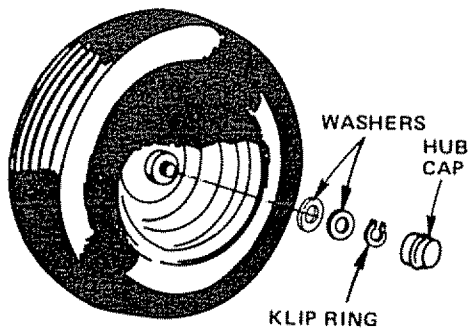

FIGURE 44
- d. Removing front wheel for tire repair (Fig. 44).